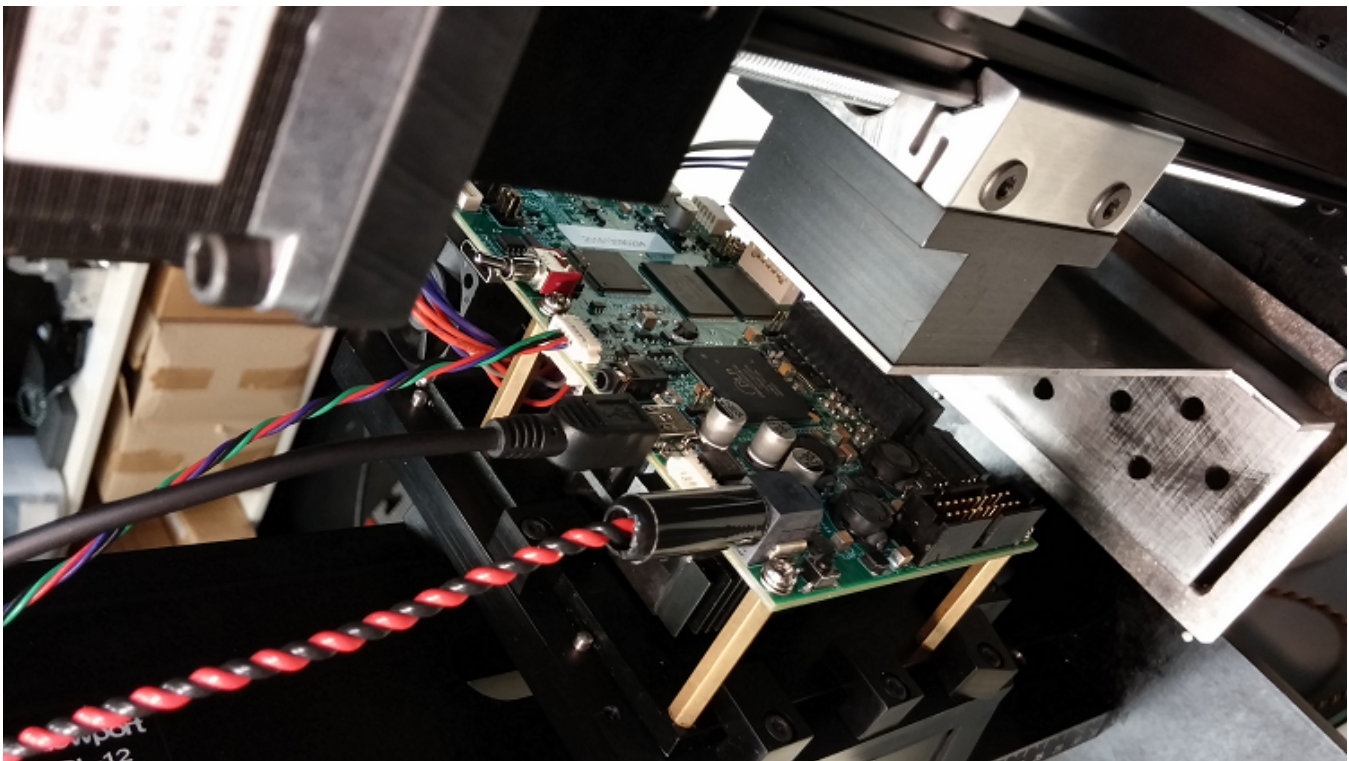

Figure 3-11. LightCrafter 4500 USB Connection
5. Connect the USB mini connector to the LightCrafter 4500, as shown in Figure 3-11.